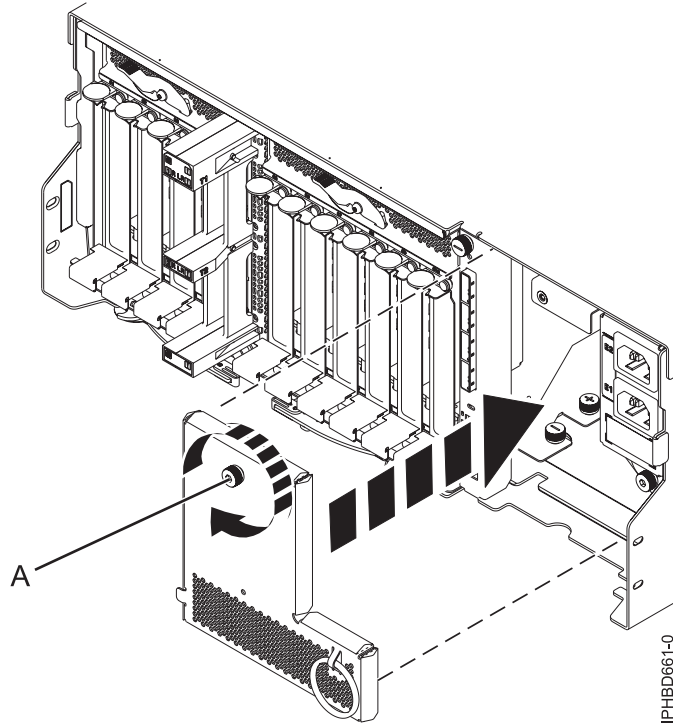

Figure 31. Replacing an input power distribution assembly cover
6. Replace the input power distribution assembly cover, and then tighten the thumbscrew (A) as shown in Figure 31 on page 30.